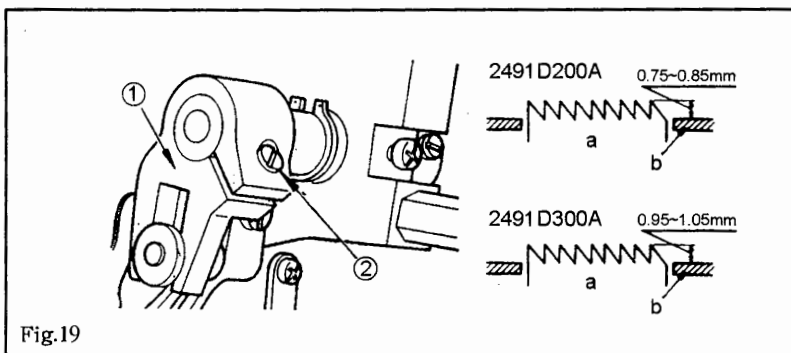

Fig.19
3. HEIGHT OF THE FEED DOG (Fig.19)